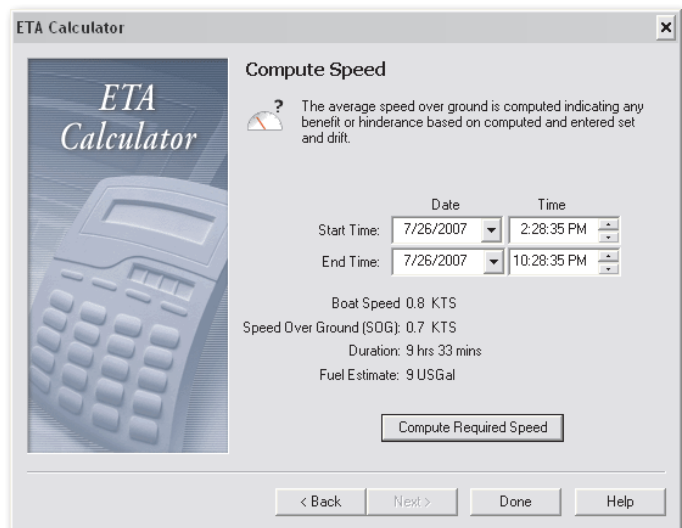

Figure 14.8 - ETA Calculator - Speed
5. The ETA Calculator will now compute the speed needed in order to arrive at the end of your route at the specified date and time (see **Figure 14.8**).